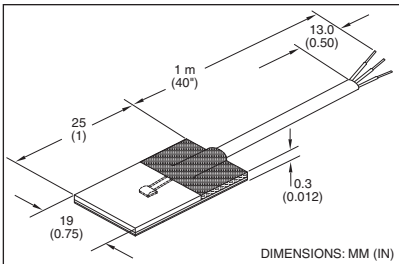

Figure 1. Underside View
2. Peel the protective tape from the underside of the sensor (see Figure 1). Please note that the protective paper is sliced approx 1/4" from the leading edge of the sensor to help